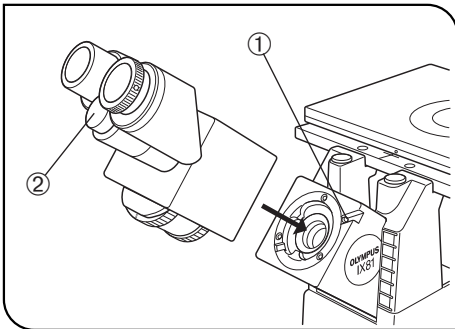

Fig. 79
7 Attaching the Observation Tube (Figs. 79 to 82)
Binocular Tube (U-BI90CT, U-BI90, U-TBI90) (Figs. 79 & 80)
1. Using the Allen screwdriver, loosen the observation tube clamping screw ① on the observation tube mount. (Fig. 79)
2. Attach the circular dovetail mount of the observation tube into the observation tube mount, placing the observation tube so that the interpupillary distance scale numbers ② are seen right side up. Then tighten the clamping screw to clamp the observation tube.